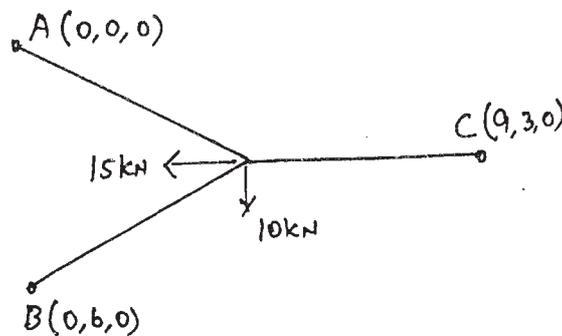

Fig. 14 (b)
- (b) Determine the forces in the members of the space frame plane view shown in Fig. 14 (b) by tension coefficient method.